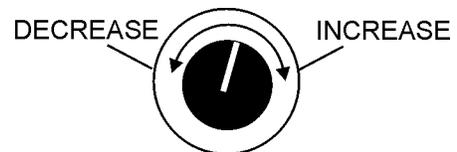

Figure 47. Voltage Adjust Control Knob
9. If the voltage is not within the specified tolerance, use the voltage adjustment control knob (Figure 47) to increase or decrease the desired voltage.